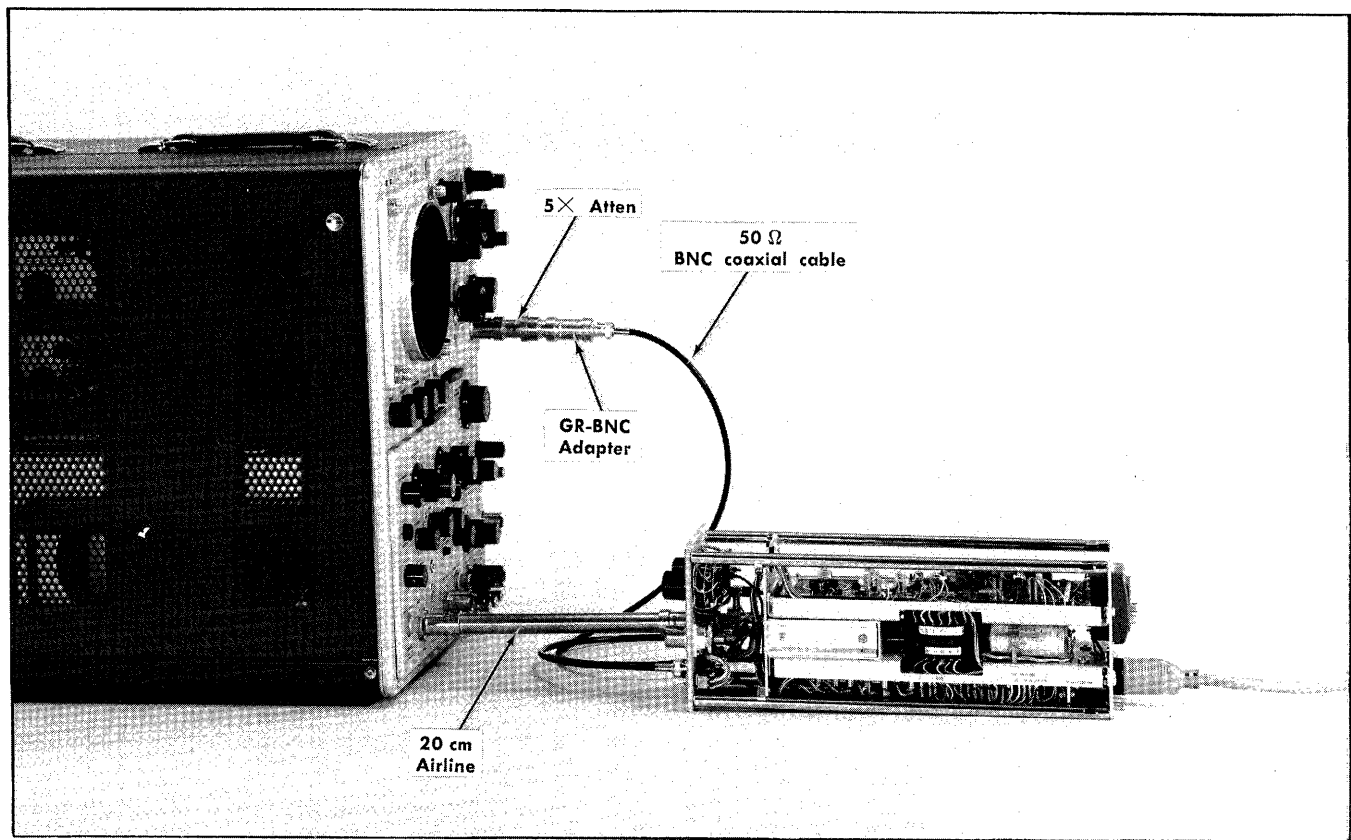

Fig. 6-31. Equipment setup for steps 25 and 26.
a. Use the equipment setup as in Fig. 6-31 or as described in the Type S-2 Sampling Head Performance Check/Recalibration Procedure. (Fastest method of adjusting the Snap-Off Current control is to operate a Type S-2/Type 3S2 in a Type 568 with Type 230 Digital Unit. Operate the digital unit for a 10% to 90% risetime readout.)
- Use the equipment setup as in Fig. 6-31.
- Use the equipment setup as shown in Fig. 6-31.